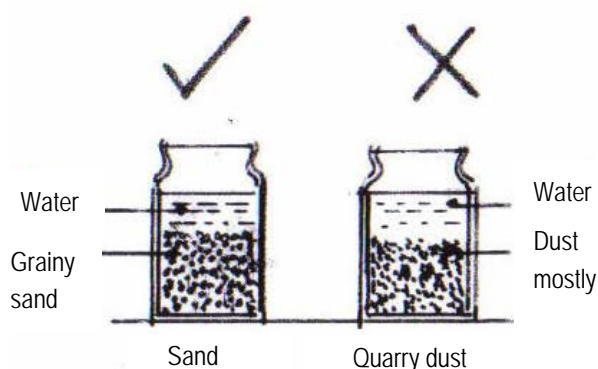

Fig 3 - **Testing fine aggregate**
- Checked the suitability of quarry dust by using a bottle test to compare The size of particles with that of sand (See fig. 3)